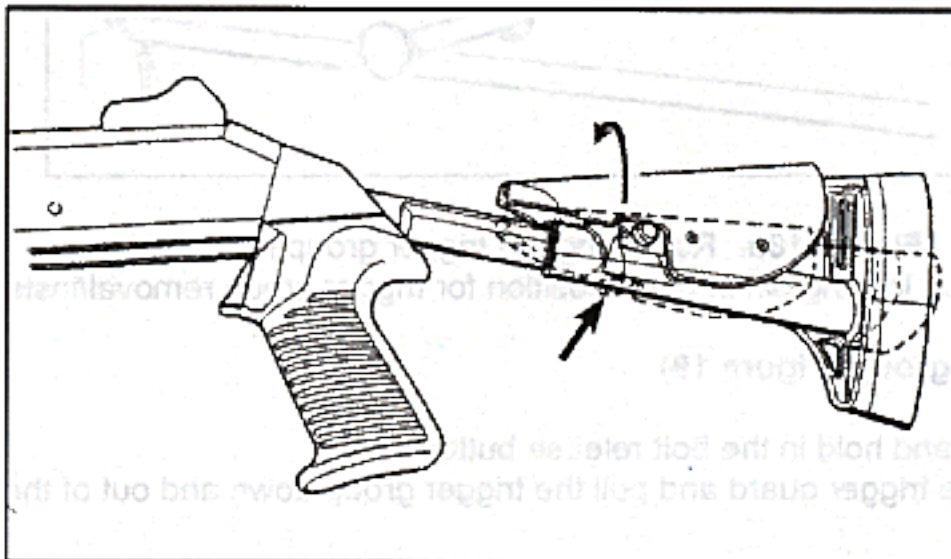

Figure 20. Extending the buttstock
- A. Extending the Telescoping Buttstock (Figure 20).